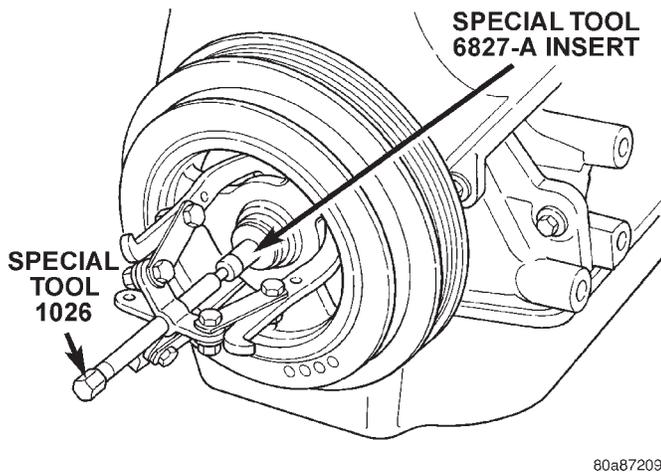

Fig. 53 Crankshaft Damper—Removal
- (1) Using Special Tool 1026 and Insert 6827-A, remove crankshaft damper (Fig. 53).
- (2) Remove outer timing belt cover and timing belt. Refer to Timing Belt System outlined in this section.